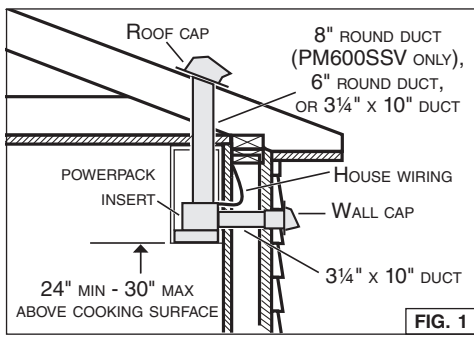

FIG. 1
- Decide where the ductwork will run between the powerpack insert and the outside. (FIG. 1)